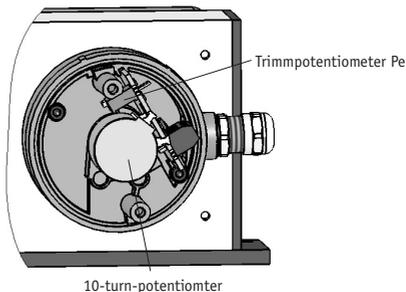

Fig. 16: Adjustment of trimmpotentiometer
**By means of the trimming potentiometer Pe (see fig. 16), the final value can be adjusted to the actual final position of the application.**